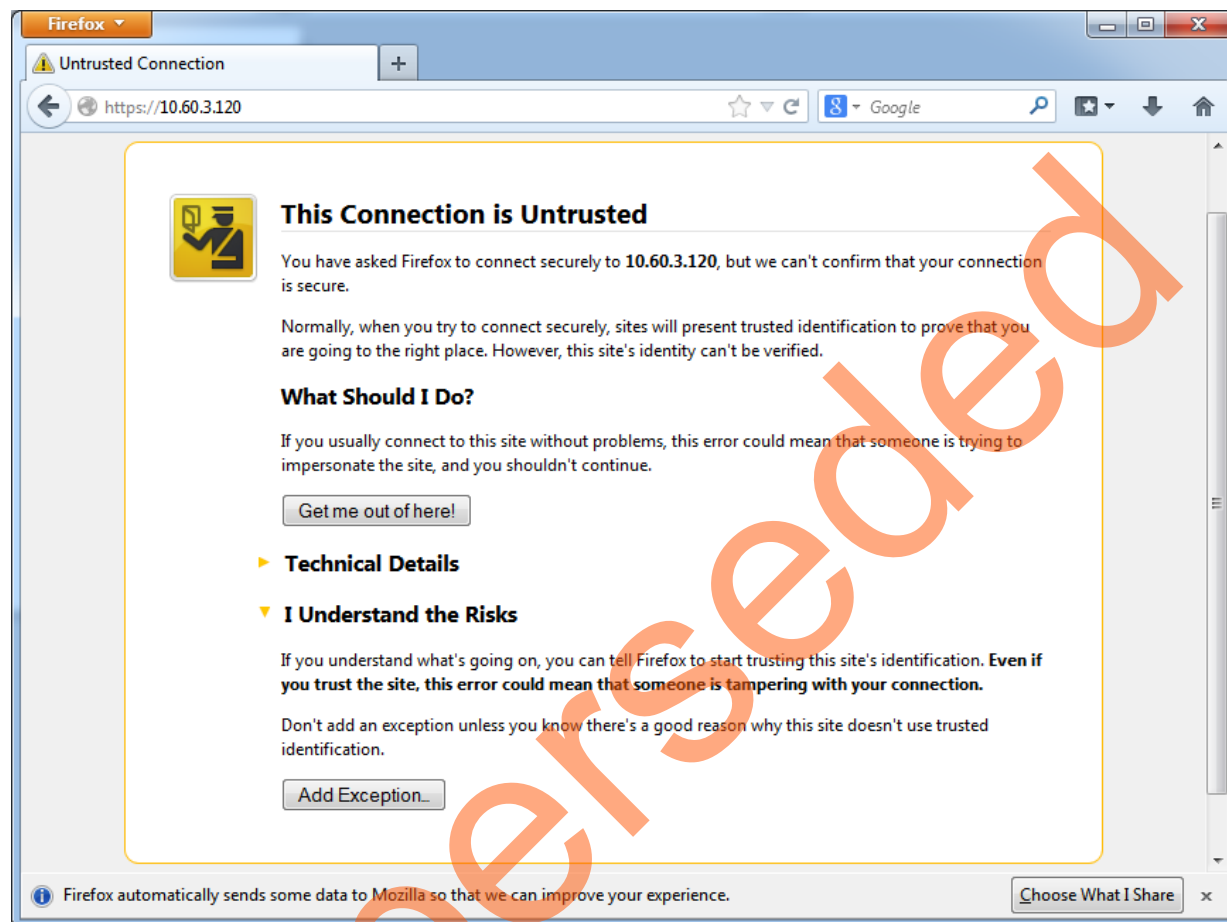

Figure 20 • Mozilla Firefox showing Warning Message
1. Open the Mozilla Firefox browser and type the URL (for example, <https://10.60.3.120>) in the address bar. The browser shows a warning message as shown in Figure 20.